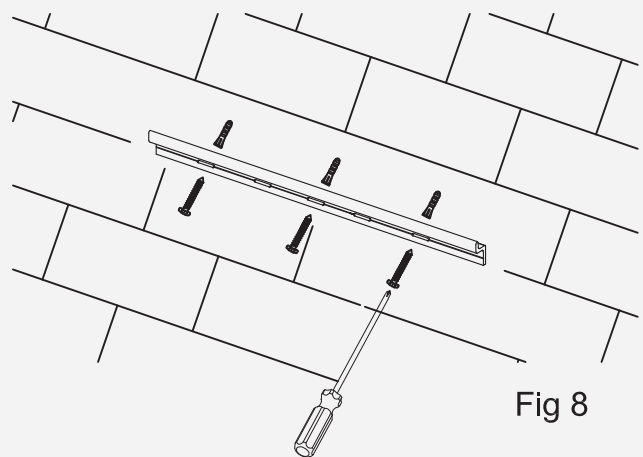

Fig 8
3. Drill 8 mm hole if required for wall anchor and place wall anchor in hole. Mount wall bracket with #10 x 1 1/2" ⑤ screws.(Fig 8)